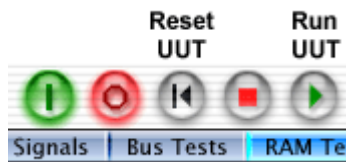

Figure 11 – Reset and Run UUT toolbar buttons
- 2.4.5 By running the UUT’s boot ROM BIOS. Using the buttons on the PCT toolbar (Figure 11), reset the UUT and then run (boot) it so that the BIOS initialises the memory controller. Any of the RAM tests can then be used. There are two drawbacks with this method: